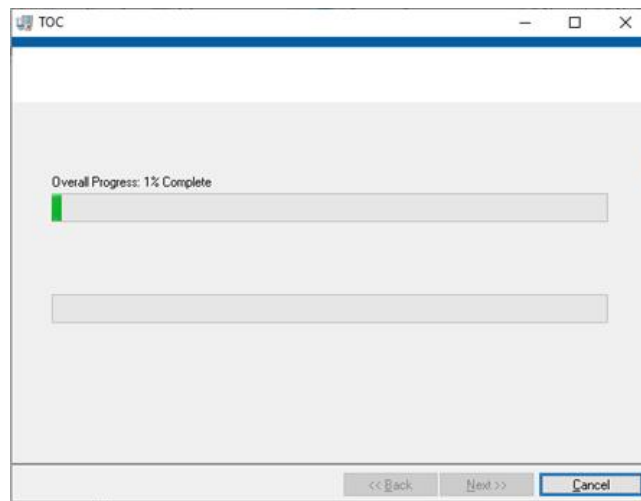

Fig. 3.43
5) Wait to complete the installation (Fig. 3.43).